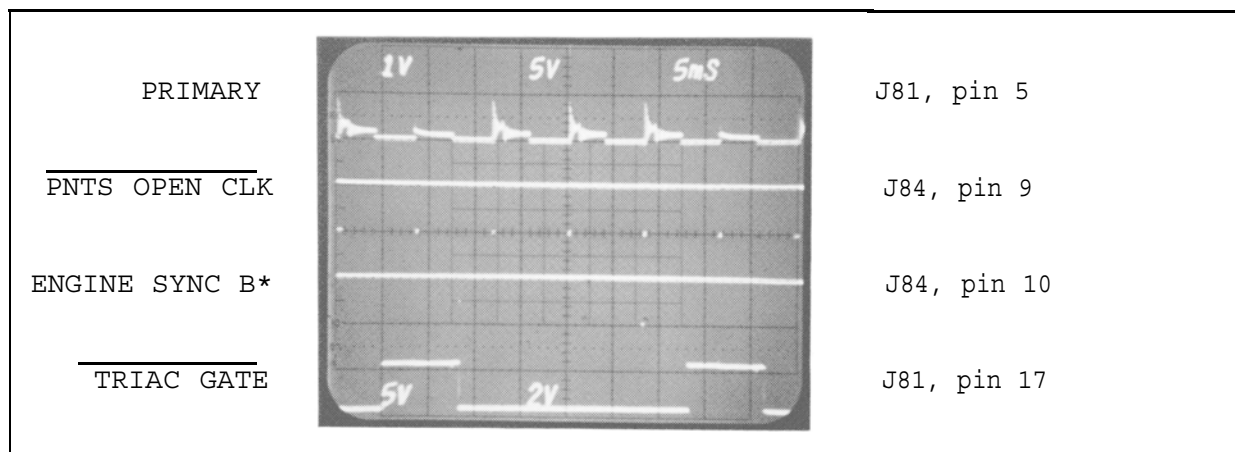

FIGURE 3-6 CYLINDER SHORTING
The CYL SHORT signal goes to the cylinder shorting logic on the Analog Scope Board where it initiates turning on the shorting triac on the Input board. Referencing figure 3-6, the TRIAC GATE signal is similar to the CYL SHORT signal, with the signal being clamped at approximately 2 volts by the triac's gate.
Normally the trigger threshold voltage of POINTS OPEN CLOCK* is at 85 volts. When a spark plug's firing voltage exceeds the 85 volts, the Primary Clock Processor on the Trigger board generates the falling edge of POINTS OPEN CLOCK*. When a cylinder is shorted, it produces less than 85 volts on the ignition primary. This can be seen in figure 3-6 (primary waveform). The SHORT* signal going to the Primary Processor lowers the trigger threshold voltage for POINTS OPEN CLOCK* from 85 volts to 4 volts for the cylinder that is shorted. Lowering the threshold voltage insures that the shorted cylinder is "counted".
3. If a problem still exists after replacing the above boards, reference figure 3-6 and verify that CYL SHORT* is going low. (Informs Processor to lower its trigger threshold for the shorted cylinder).